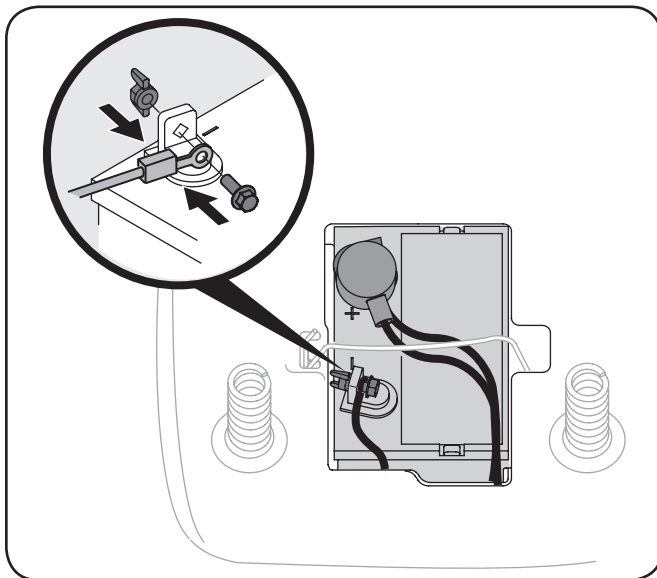

Figure 3-3
2. Remove the black plastic cover, if present, from the negative battery terminal and attach the negative cable to the negative battery terminal (-) with the bolt and wing nut. See Fig. 3-3.